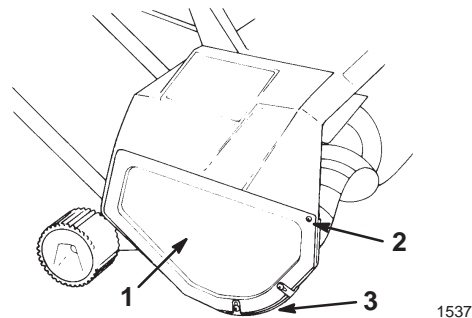

Figure 13
1. Remove the three screws that secure the right side cover and the skid to the snowthrower frame (Fig. 13).